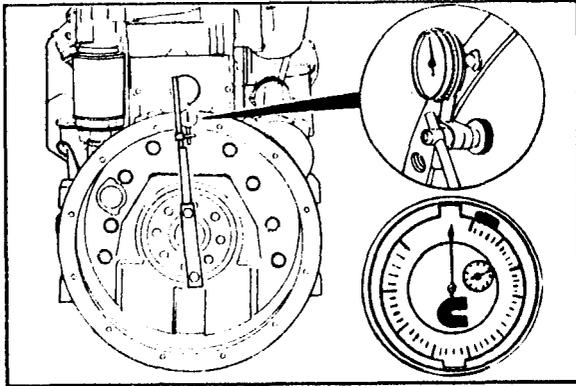

Figure 6-4
- Attaching a dial indicator to crankshaft, measure vertical and horizontal runout of flywheel housing (Figure 6-4).